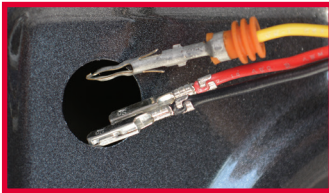

Fig. 1
1. Insert the separate end of the fuse box harness through the access hole on the driver side rear of the truck bed, until the harness extends below the truck fender. See Fig. 1.